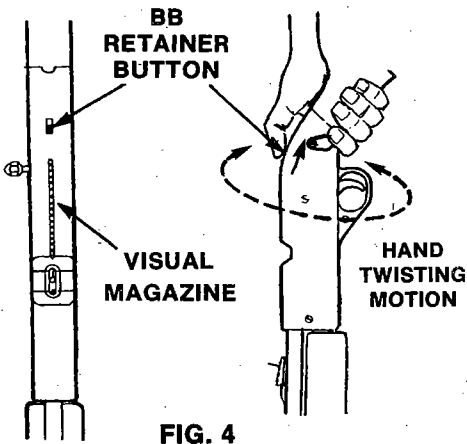

FIG. 4
- B. To transfer BBs from Reservoir to Visual Magazine, grip rifle as illustrated in Fig. 4, move the BB Retainer Button rearward with thumb, then with a hand twisting motion BBs will flow into Visual Magazine. When the Visual Magazine is filled move the BB Retainer Button forward.
- B. To prevent Barrel jamming, all BBs must be removed from Visual Magazine. See Step 3 Section C (Fig. 4)